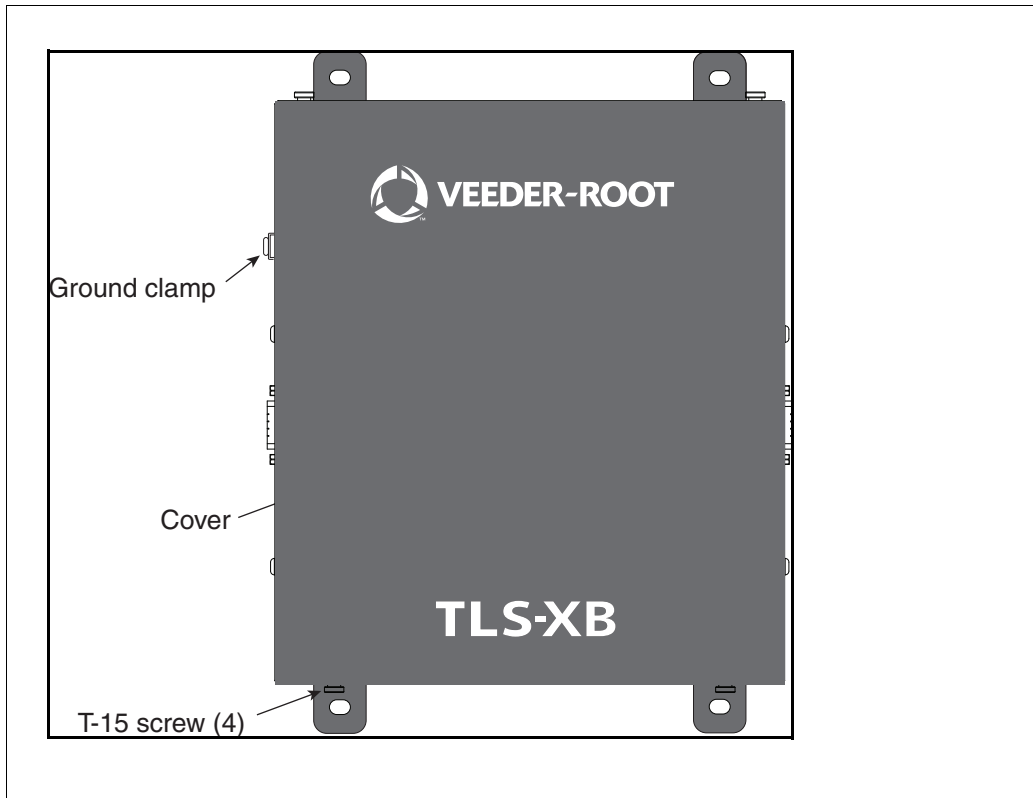

Figure 4. Removing The TLS-XB Expansion Box Cover
The TLS-XB Expansion Box's grounding clamp (see Figure 4) must be connected to a separate earth ground using 4 mm2 (#10AWG) minimum cable.
1. Using a T-15 Torx driver, remove the top and bottom screws securing cover and lift cover off enclosure (see Figure 4).